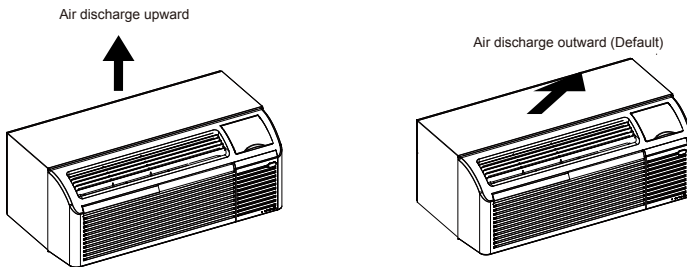

Fig.19—Adjusting Louvers
- 3.Turn louver insert and rotate 180°.See Fig.19.